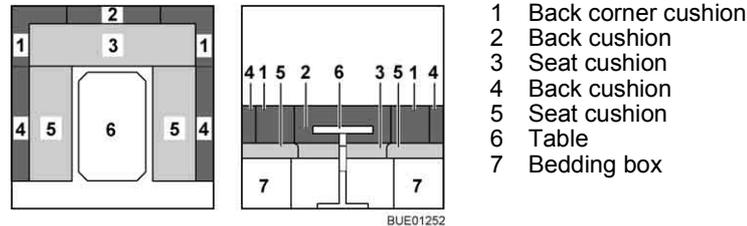

Fig. 94 Prior to conversion
- Remove the back corner cushions (Fig. 94,1) and the back cushion (Fig. 94,2) and store them under the table.